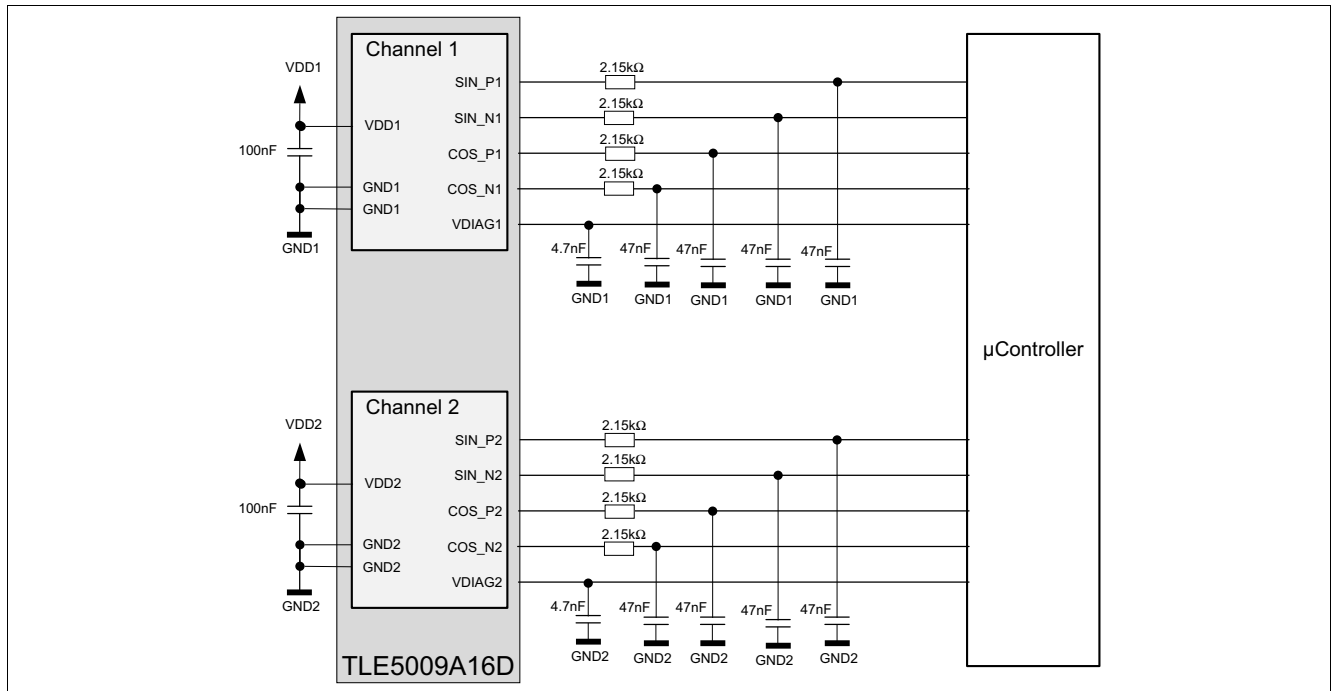

Figure 8 Application circuit for the TLE5009A16D in differential output mode.
The TLE5009A16(D) sensor can be used in single-ended or differential output mode. **Figure 7** shows a typical application circuit for the TLE5009A16D in single-ended output mode using the positive output channels. For single-ended operation the positive or negative output channels can be used. Unused single-ended output pins should preferably be floating or connected to GND with a high-ohmic resistance ( $> 100 \text{ k}\Omega$ ). The TLE5009A16D has separate supply pins for the two GMR sensor dice. The microcontroller comprises up to 10 A/D inputs used to receive the sensor output signals in differential output mode, illustrated in **Figure 8**. For reasons of EMC and output filtering, the following RC low pass arrangement is recommended. The RC low pass has to be adapted according to the applied rotation speed1).